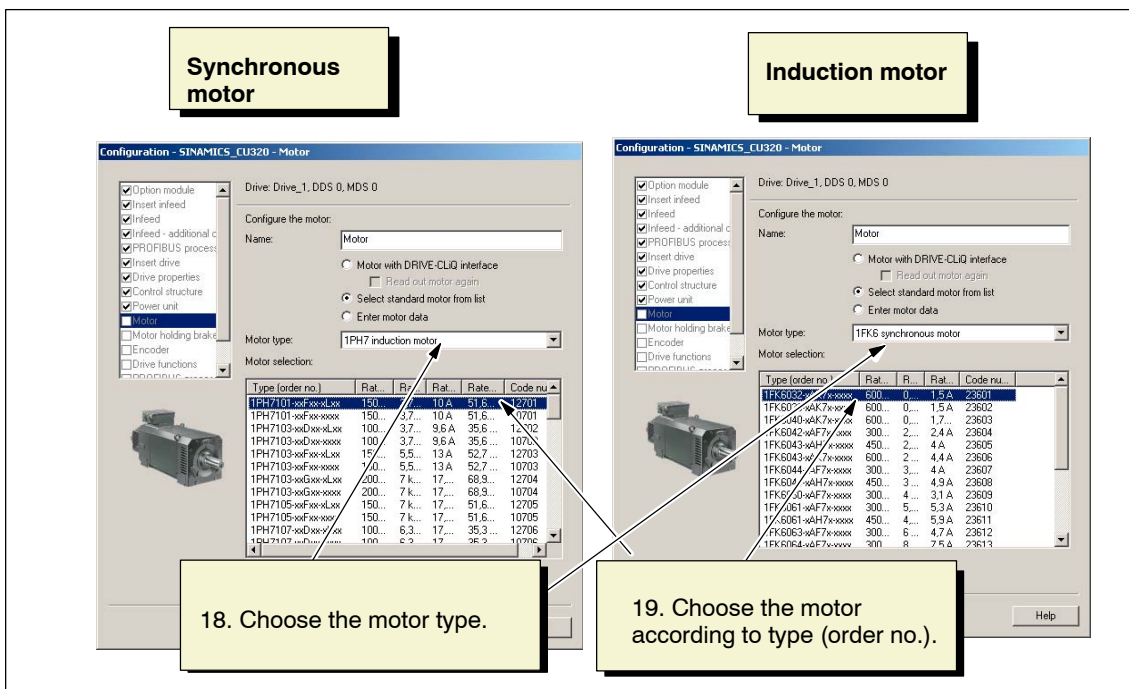

Fig. 3-26 Motor configuration
17. Click **Continue >** to select the motor (see Fig. 3-26).